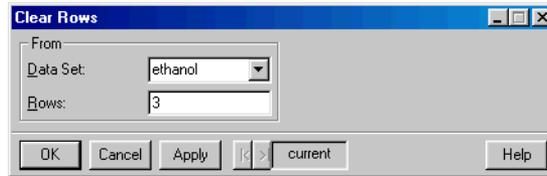

Figure 2.29: The *Clear Rows* dialog.
- From the main menu, choose **Data ► Clear ► Row**. The **Clear Rows** dialog opens, as shown in Figure 2.29.